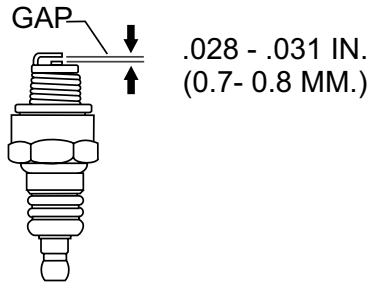

Figure 33. Spark Plug Gap
1. Remove and clean spark plug (Figure 33) with a wire brush if it is to be reused. Discard spark plug if the insulator is cracked or chipped.